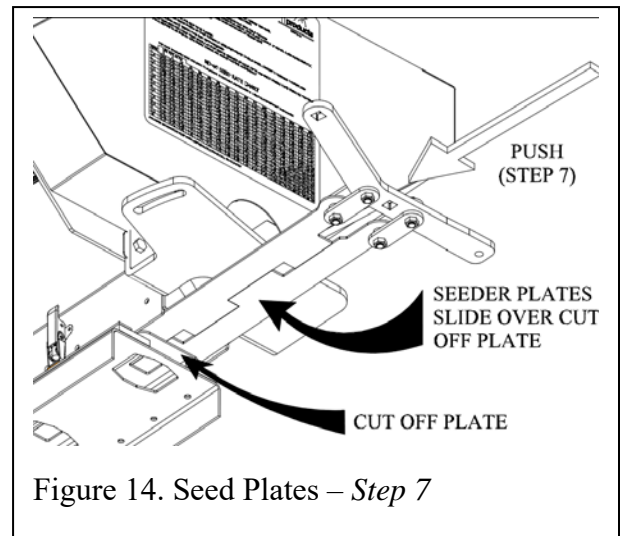

Figure 14. Seed Plates – Step 7
8. Take seed plate assembly and slide back into machine; be sure to put seed plates on top of cut off plate when starting to push them into the machine as shown in Figure 14.